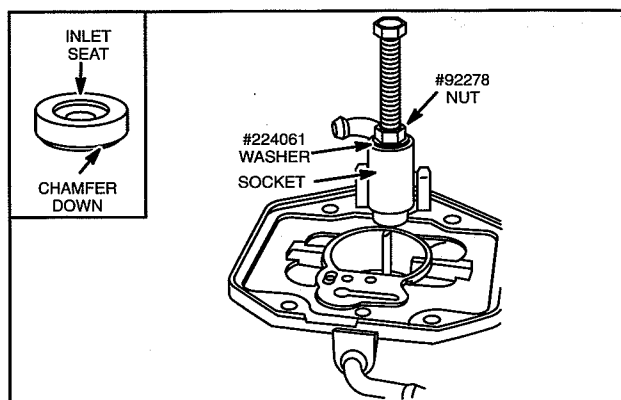

Fig. 106 – Remove Inlet Seat
5. Continue turning until seat body is removed, Fig. 106.